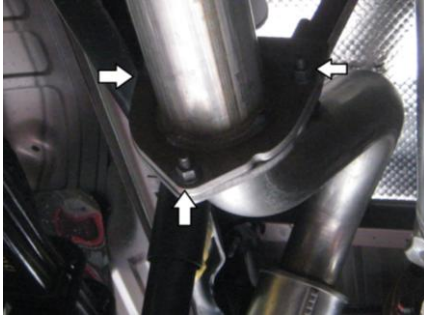

Figure 1
2. Loosen the three (3) nuts securing the extension pipe flange to the tail pipe. **Refer to Figure 1.**